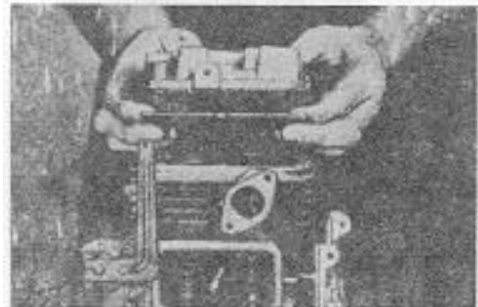

Figure 28
- Always use a new gasket when head has been removed for service work. Figure 28. Head gasket should be soaked in water before assembly.